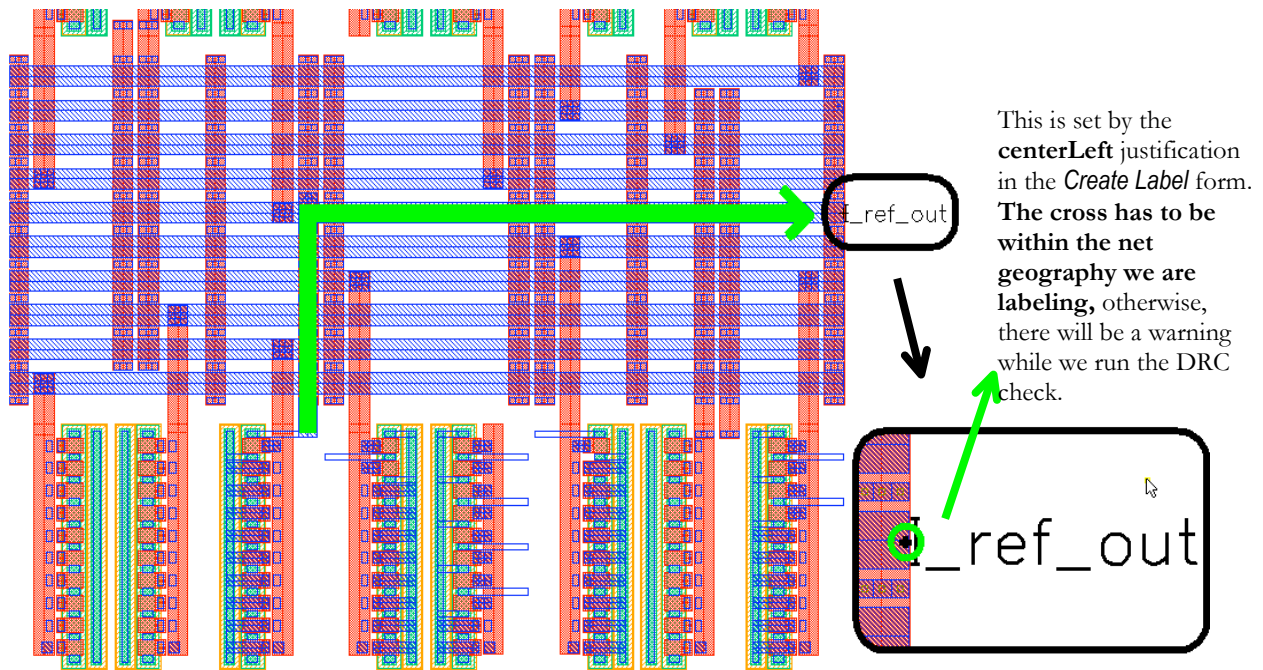

Figure 75: Creating label for signal I_ref_out
15. Click on *OK* and then stamp it right next to the 6th row of metal line from the bottom as in Figure 75.